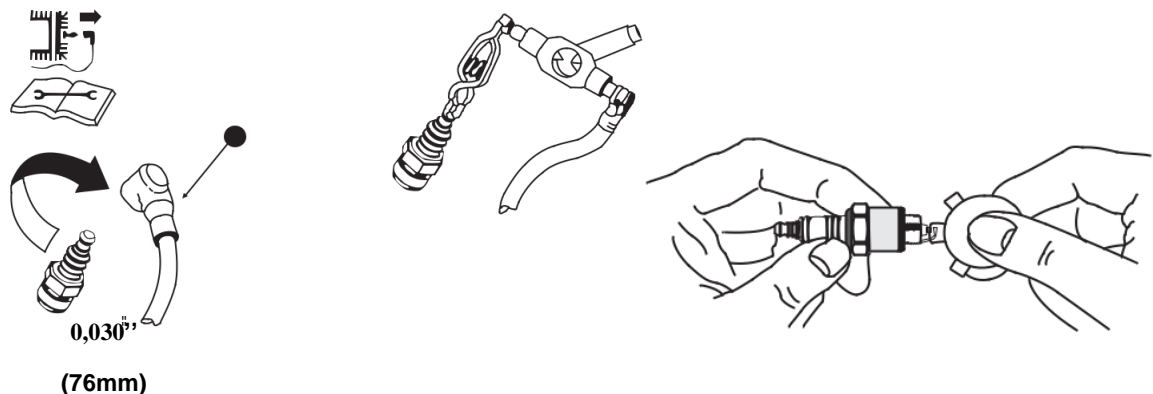

Figure 12
- 6.5.5 Adjust the spark plug gap to 0.76 mm with a feeler (Figure 12).